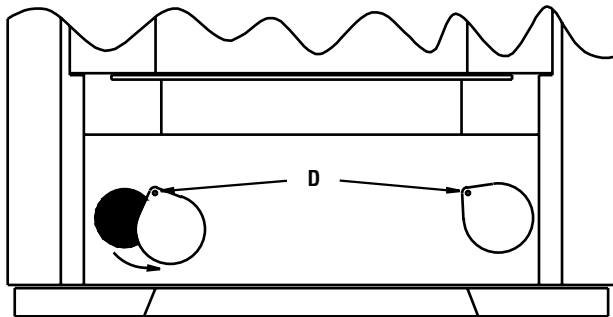

Figure 46B
8. Rotate the clean-out covers off to the side to access the flue passage way cavity (see D in **Figure 46B**). Using an ash vac, clean out all ash build-up.